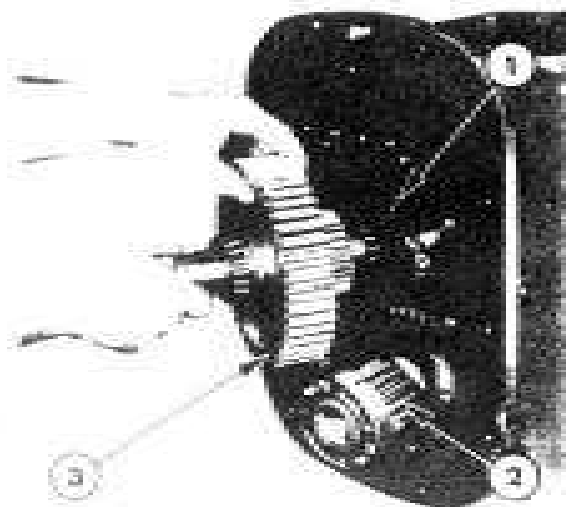

Figure 45
4. Locate the output shaft above the secondary countershaft, Figure 45 and push into position.